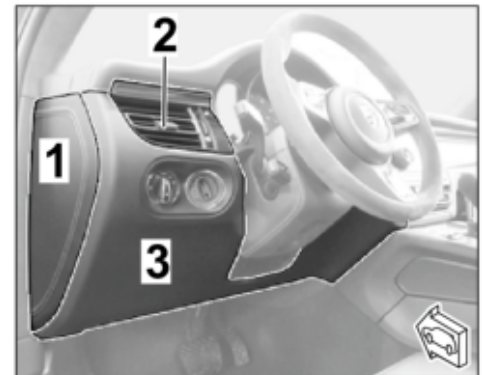
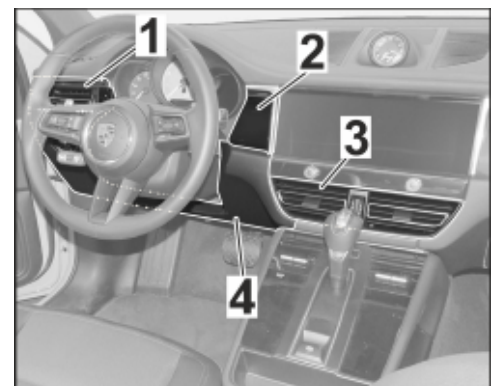

Figure 12
Figure 13
1.5.1 Remove dashboard trim panel (⇒ *Figure 12 -1-*). ⇒ *Workshop Manual '701619 Remove and install dashboard trim panel'*
1.5.2 Remove air vent (on instrument cluster ⇒ *Figure 12 -2-* / ⇒ *Figure 13 -1-*) and air vent unit (underneath the PCM ⇒ *Figure 13 -3-*).
1.5.3 Remove dashboard moulding/trim panel (at the right ⇒ *Figure 13 -2-*).